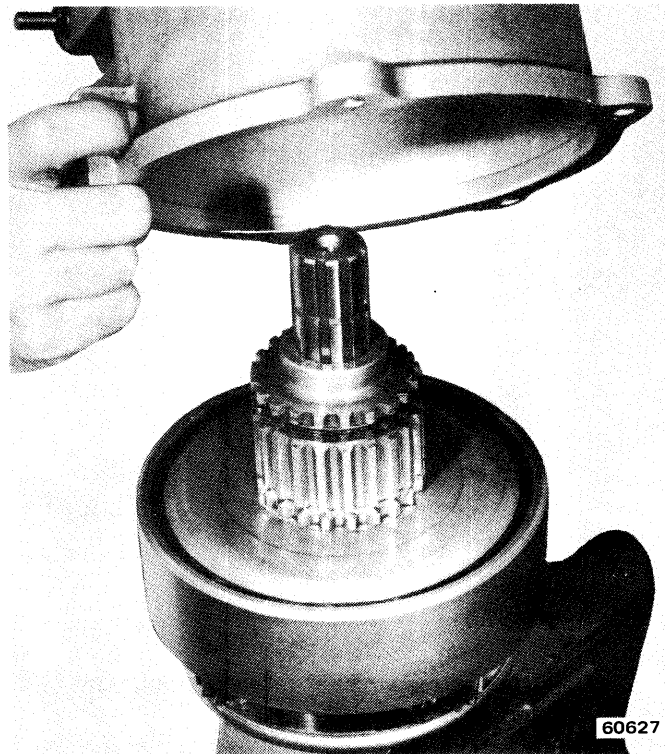

Fig. 8-26 Removing-Installing Housing
(6) Lift reduction unit housing off gear train (fig. 8-26).
(26) Install needle bearing, pinion cage lock plate, and another needle bearing on that part of shift collar hub that extends through ring gear.
(27) Slide assembled parts toward edge of workbench just far enough to expose bore in shift collar hub. Support assembly with one hand and insert main shaft in bore of shift collar hub with other hand. Be sure main shaft and sun gear are fully seated. Install main shaft and sun gear from open end of ring gear.
(28) Hold assembled parts firmly together, lift assembly and mount assembly on socket (in vise) used to support reduction unit during disassembly.
(29) Install needle bearing and direct drive sleeve on main shaft.
(30) Align splines on assembled parts and install reduction housing (fig. 8-26). Be sure housing is seated